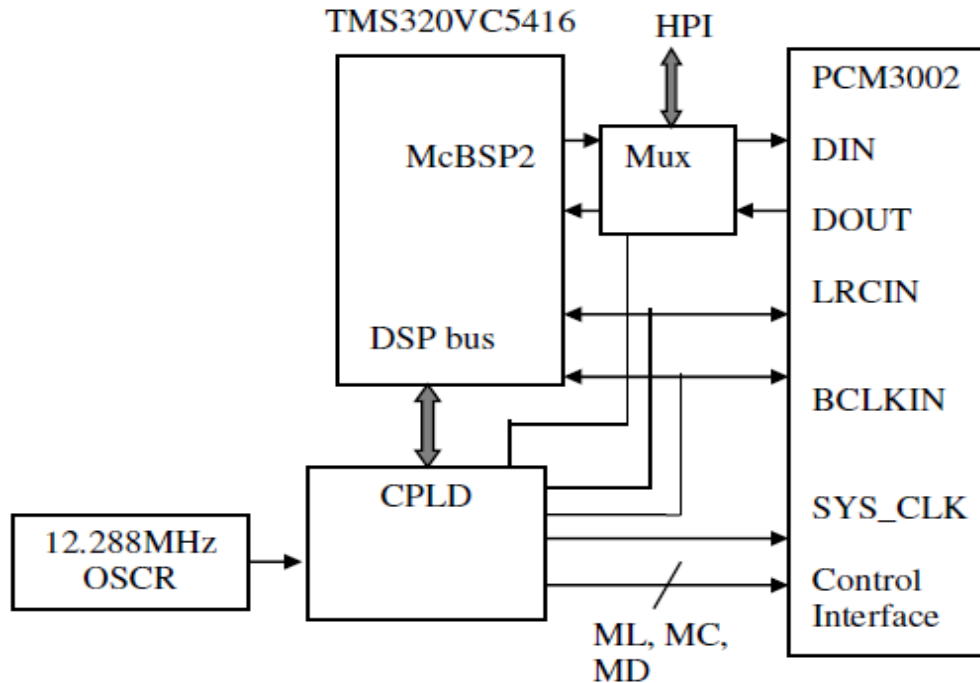

Fig. 8.5: PCM3003 Interface to DSP in DSK
- Figure 8.5 shows interfacing of PCM3002 to DSP in DSK. DSP is connected to PCM3002 through McBSP2. The same port can be connected to HPI.